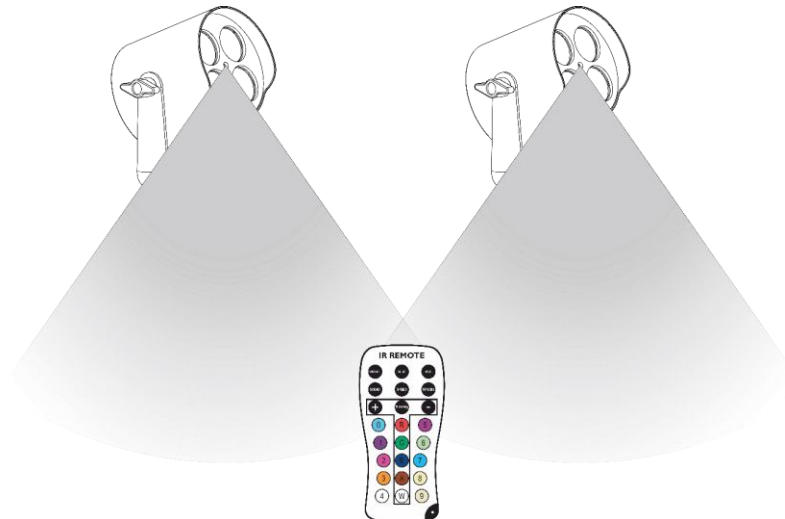
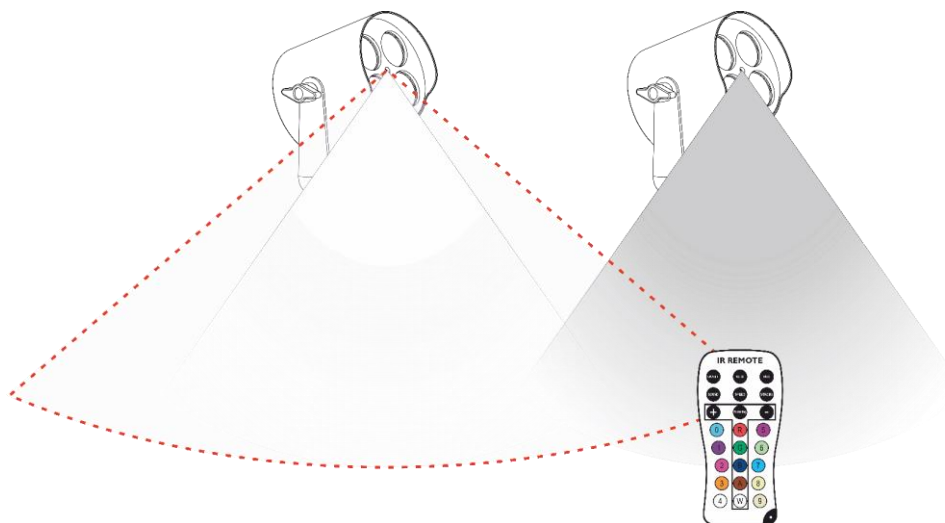

Fig. 08
Fig. 09
You can control several devices at the same time with the remote control. Make sure that you point the remote control to the **infrared sensor (04)** of the device or group of devices that you want to control, as shown in Fig. 08. If you point the remote control to the **infrared sensor (04)** of the device outside of the range of the sensor, the device will not respond to the remote control (Fig. 09).